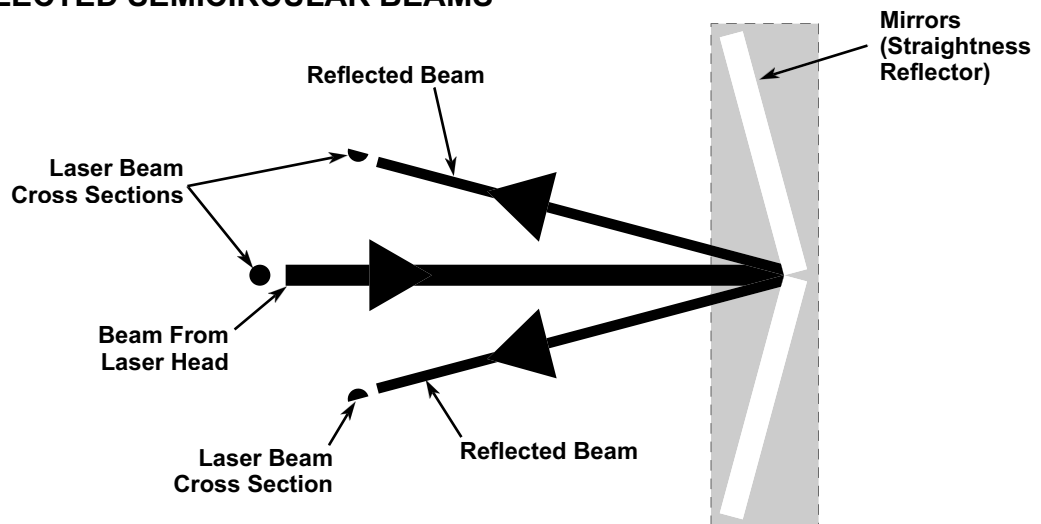

Figure 7Y-7. Reflected semicircular beams
- 6 Rotate the Interferometer's bezel to bring the scribed line parallel to the Straightness Reflector's aperture slot. See Figure 7Y-8. Turn the bezel until the dots overlap on the reflector side of the interferometer. Use a card to locate the return beam and make the appropriate angular adjustments to the reflector to get the beam back through the interferometer and the beam splitter.
The straightness optics are now aligned. There may be further fine adjustment to be done, but first make several measurement passes and observe the data. If a steady change in the data occurs, rather than either a random scattering of numbers or a constant number, this indicates misalignment between the axis of travel and the reflector's mirror axis. See Figure 7Y-10 for an illustration of this error. This error is called "slope", and must be removed to obtain proper straightness information.